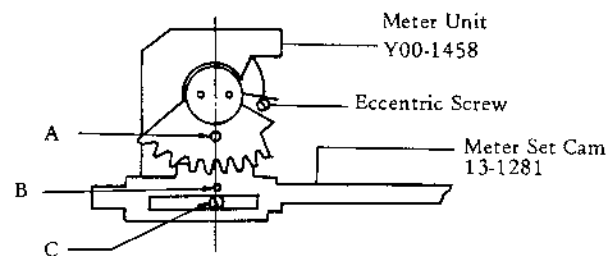

Fig. 4
1) Mount Meter Set Cam (13-1281) as shown in figure 4. This is the correct alignment for ASA 50, 1/500 sec.